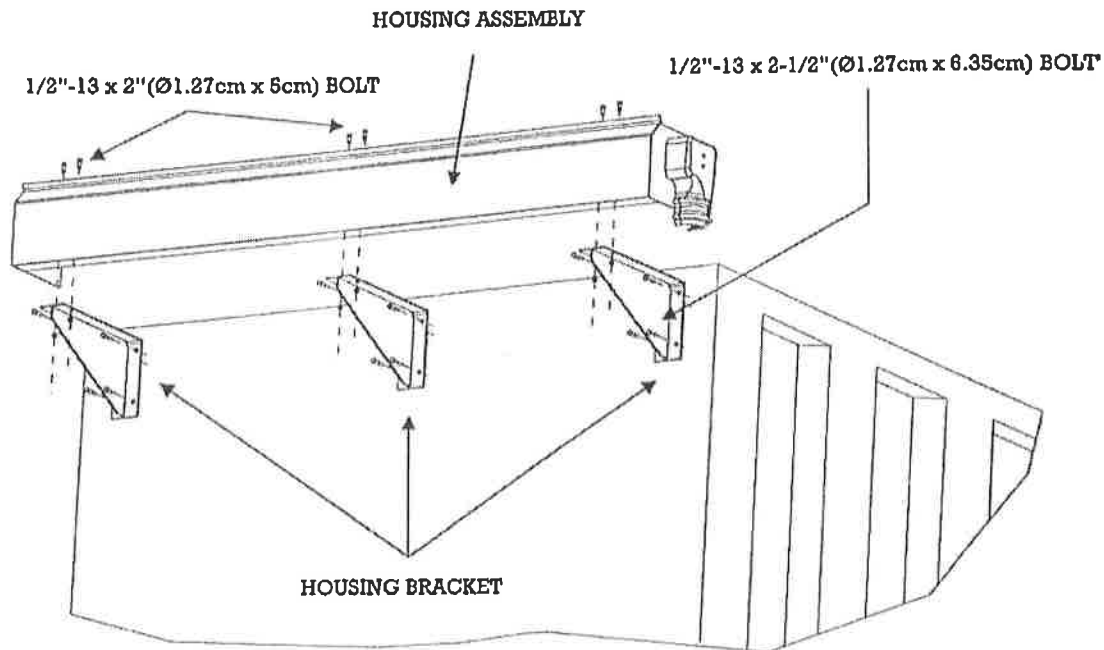

FIGURE 4
- You may either place the housing on top of the front rail (not shown), or use the supplied brackets (recommended), 1/2" - 13 x 2" (Ø1.27 CM x 5 CM) bolts, flat washers, and lock nuts to mount it in front of the trailer (see figure 4). Due to the many variations in trailer configurations, you may choose to use extra brackets, angle iron, or some other technique that works well with your particular trailer design to help support the housing assembly.